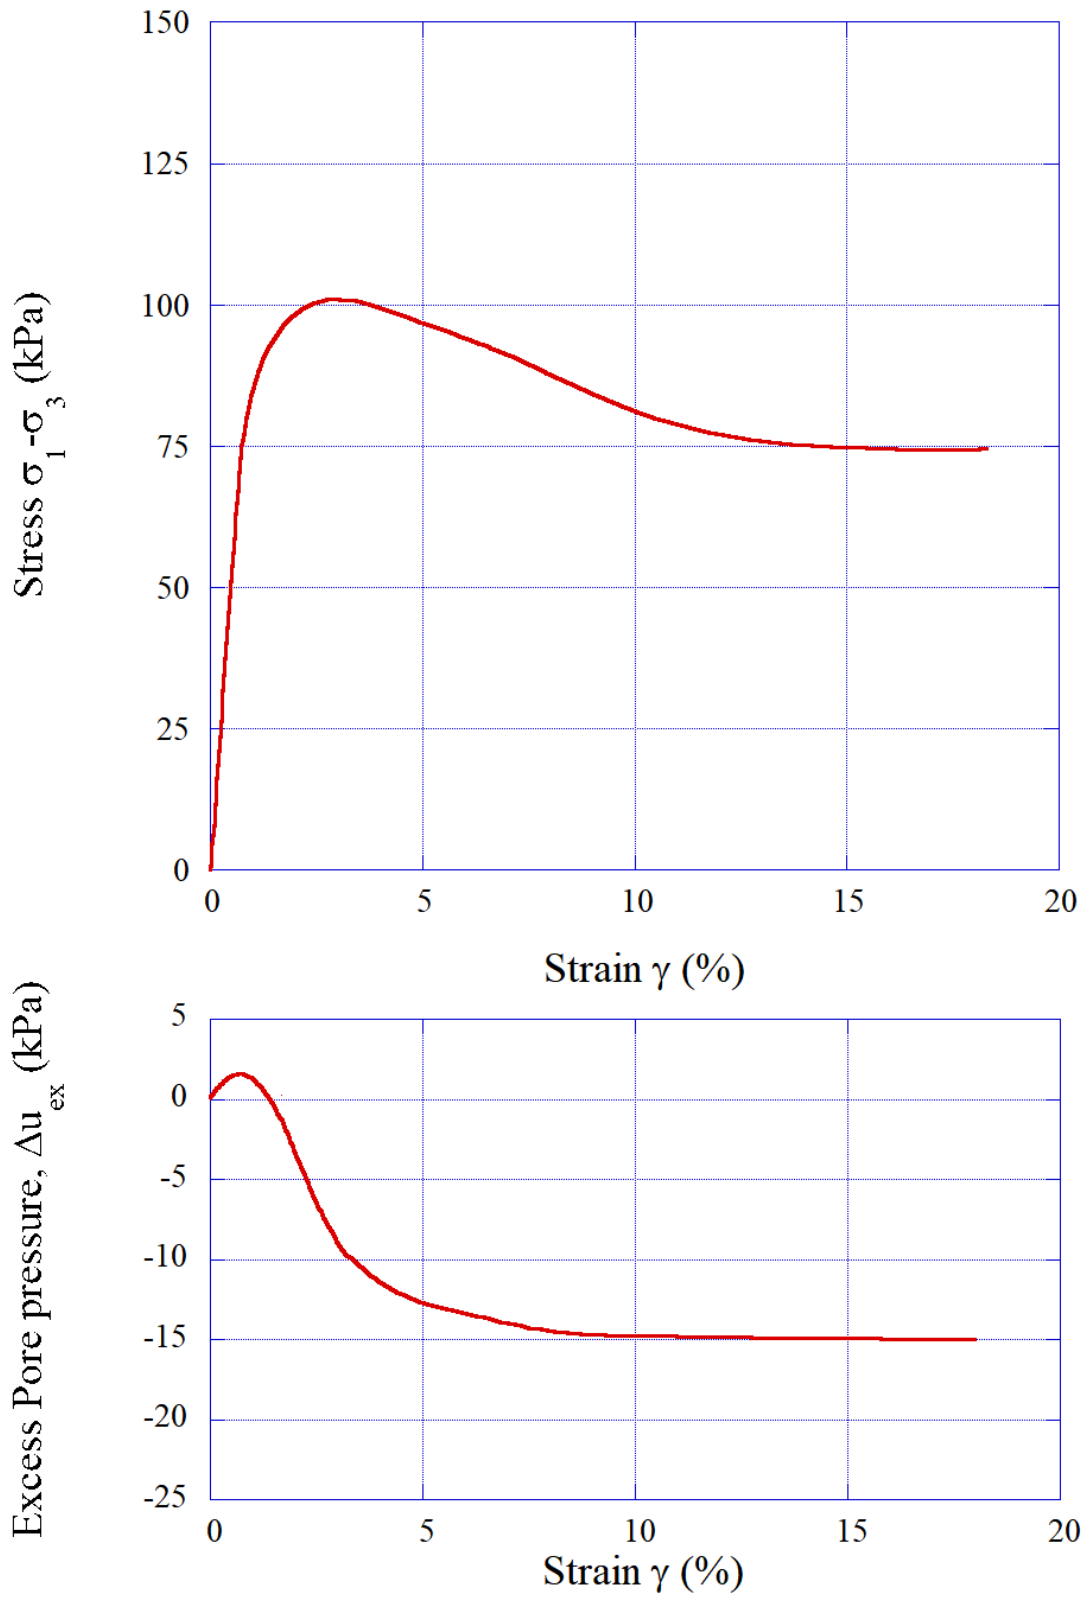

Fig. 3
- (a) The site soil profile consists of a stiff overconsolidated silty clay with unit weight of 19.5 kNm^{-3} . Triaxial isotropically consolidated undrained compression tests were carried out on the soil. Representative results for a specimen consolidated to 30 kPa are shown in Fig. 3. Estimate the undrained shear strength and drained strength parameters for the clay. [30%]